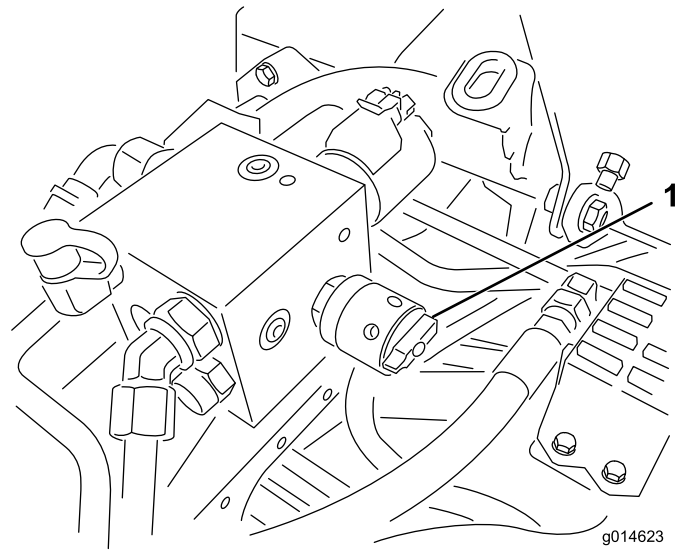

Figure 53
6. Rotate the Reel Speed Control to setting 1 (Figure 53).